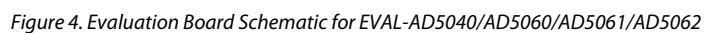

Figure 2. Device Selection
2. Choose the part to be tested as shown in Figure 2.